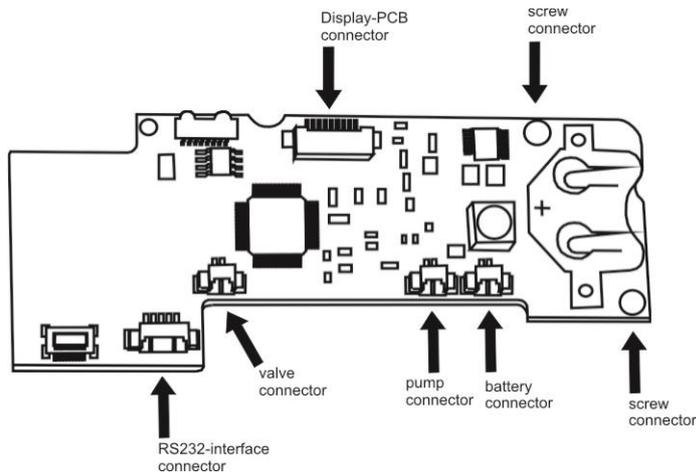

Fig. 21
- Disconnect the wire-to-board connectors on the mainboard and remove the 2 screws (see Fig. 21)